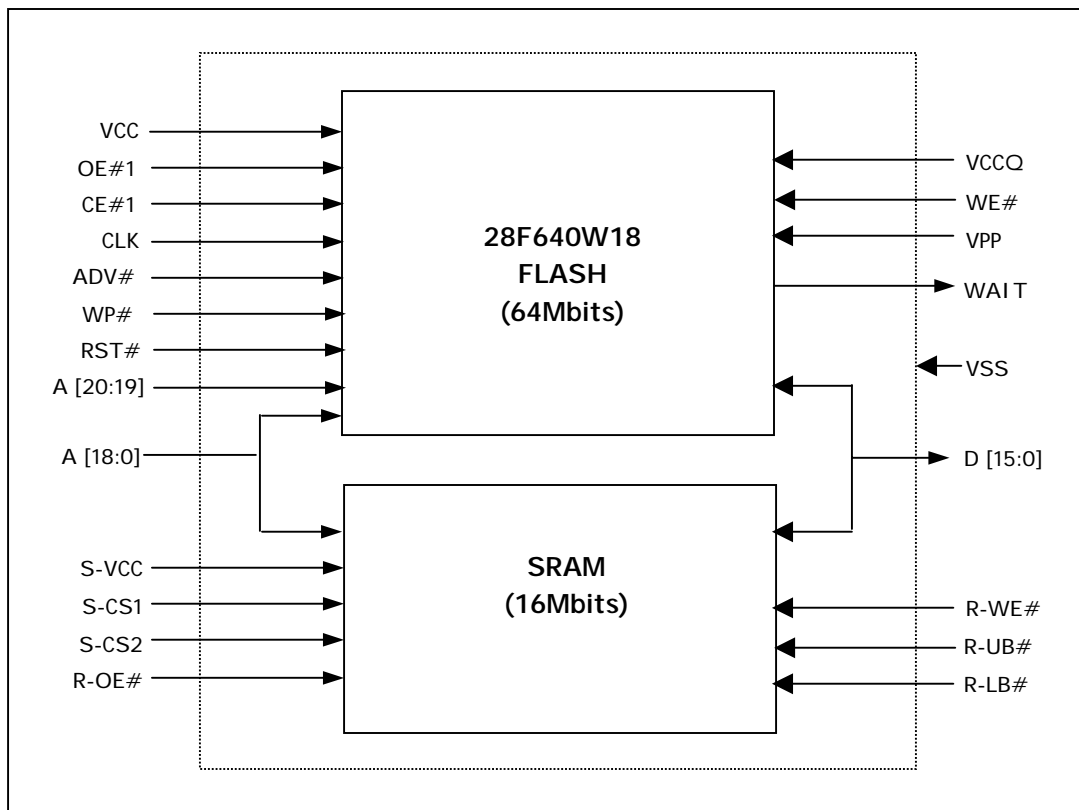

Figure 13 – A780 Baseband 64W18 + 8MB SRAM Stacked-CSP Block Diagram
Although Neptune has internal ROM and RAM, it still needs external memory chipsets for its operation. One 32Mbit Flash and one 4Mbit SRAM can access by Neptune via the 16-bit parallel data bus. Each of these devices is assigned a specific chip enable(s) from the Neptune-LTE. Within the Neptune chip select control register; the wait states are defined for each device. Each wait state is the equivalent of one clock cycle, i.e. $1 / 13\text{MHz} = 77 \text{ ns}$. The memory chip selected for A780 Neptune-LTE baseband system is a stack-memory by which both Flash and (P)SRAM are embedded into one single 8.0mm by 10mm Stacked-MSP (Chip Scale Package) for PCB space saving. Figure 13 shows this stack-memory block diagram in which both Flash and SRAM devices are included.